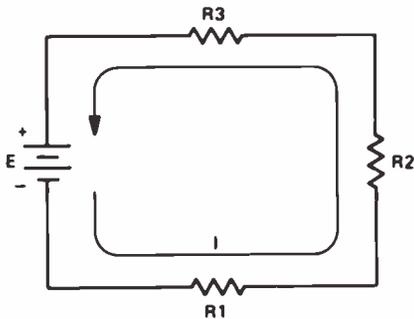
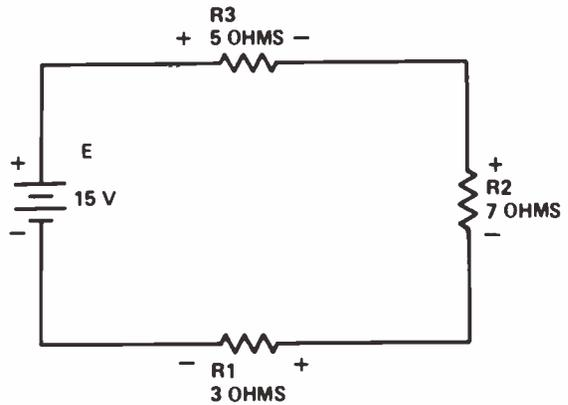

Figure 1. A series circuit.
Figure 2. A series circuit.
A series circuit has only one current path, as shown in Fig.1. The current is the same in all parts in the circuit. The current flowing through R1 is the same as the current flowing through R2 and R3. We will use examples of circuits made up of resistors. A series circuit may use many different types of electronic components, however. For example, you could have a series circuit containing several resistors, a transistor, and a coil.
Battery voltage and resistor values for the circuit shown in Fig.1 are provided in Fig.2. In this series circuit, each resistor opposes the flow of current. The total opposition to current flow is equal to the sum of the resistances of the individual resistors. We can express this mathematically as:
Therefore, in Fig.2, the total resistance is:
**Polarity.** In Fig.2, electrical current leaves the negative terminal of the battery and flows through R1, R2, and R3. The flow of current through each resistor creates a voltage polarity across it. The polarity of voltage across R1, for example, makes the end connected to the battery more negative than the end connected to R2. The same applies to the junction of R2 and R1; it is more negative than the junction of R2 and R3.